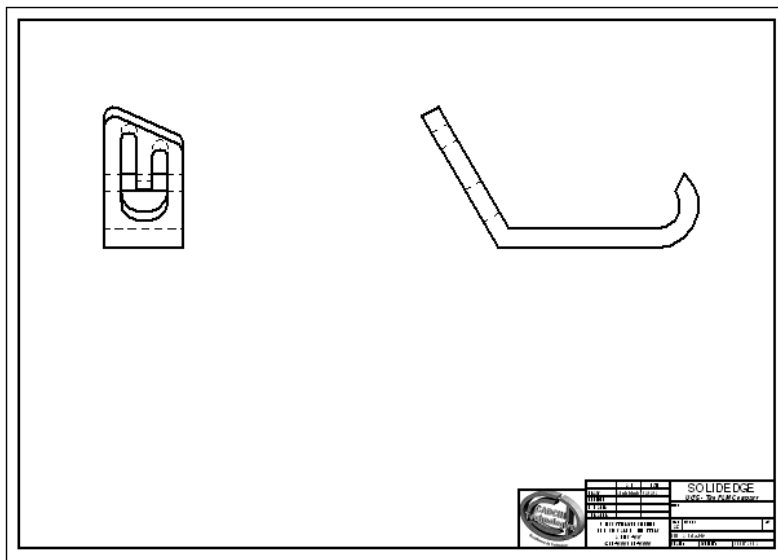

Figure 12-38 Drawing views after scaling
- Generate drawing views, refer to Figures 12-38 through 12-41.
9. You can move the views on the sheet by dragging them. Arrange the views as they are shown in Figure 12-38.